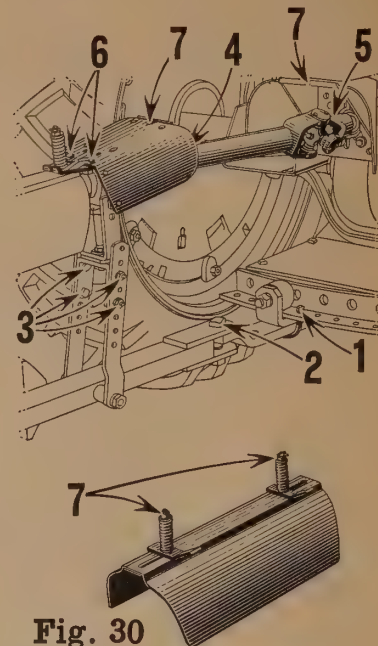

Fig. 30
1. (Fig. 30.) Move swinging drawbar to left of center on tractor drawbar guide. Secure in place with U-bolt as shown.
2. (Fig. 30.) Connect Binder to tractor drawbar.
3. (Fig. 30.) Adjust height of power shaft front bearing to level power line as shown.
4. (Fig. 30.) Remove tape around key in front end of telescoping pipe for power drive. Remove cap screw, lugged lock washer and notched retaining washer from front end of telescoping pipe. Slide rear universal joint onto front end of telescoping pipe and replace notched retaining washer, lugged lock washer and cap screw. Be sure to fit bent lug on lock washer into notch in retaining washer and to bend remaining lugs on lock washer over head of cap screw.
5. (Fig. 30.) Slide front splined universal joint onto take-off shaft on tractor and secure in place with clamp bolt and cotter.
6. (Fig. 30.) Bolt power shaft shield to **rear** set of holes in power shaft front bearing housing.
7. (Fig. 30.) Attach universal joint and pipe connection shield to take-off shield on tractor and to shield on power shaft front bearing.